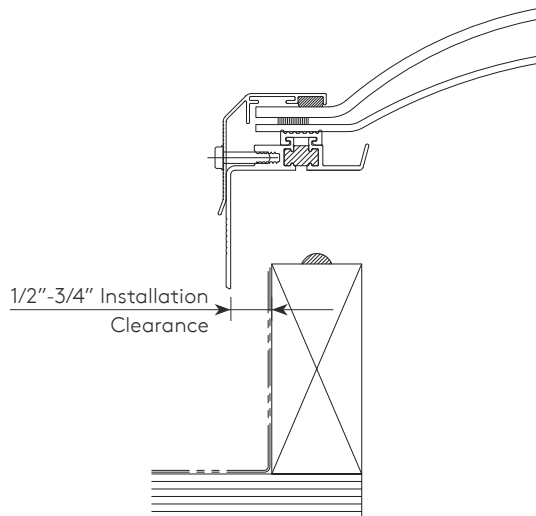

Figure 4.0
- Set the skylight on the curb. The skylight should have a loose fit over the curb. Most skylight manufacturers build their skylights to have a 1/2" to 3/4" clearance between the outside face of the curb and the inside of the skylight frame to provide for roof material termination between the outside curb face and inside of the skylight curb under the protection of the vertical leg of the skylight frame. (See Figure 4.0)